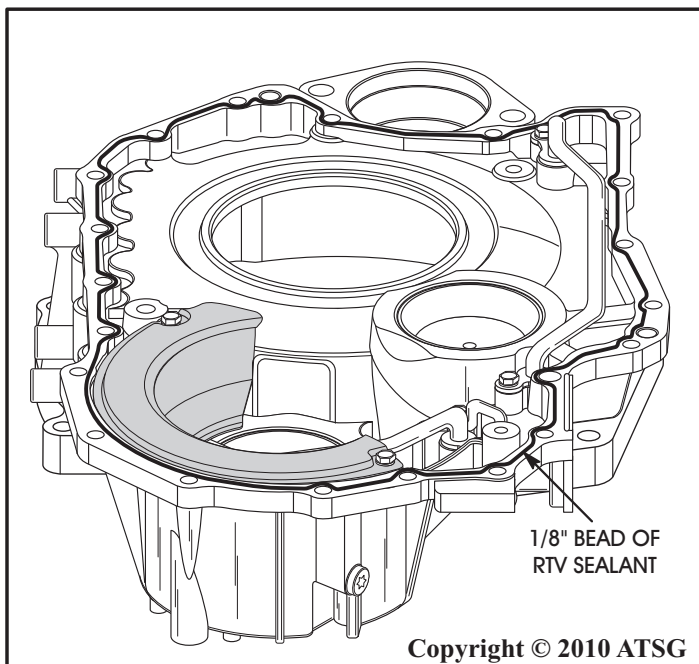

Figure 193
61. Apply 1/8 inch bead of RTV sealant to converter cover, as shown in Figure 193.